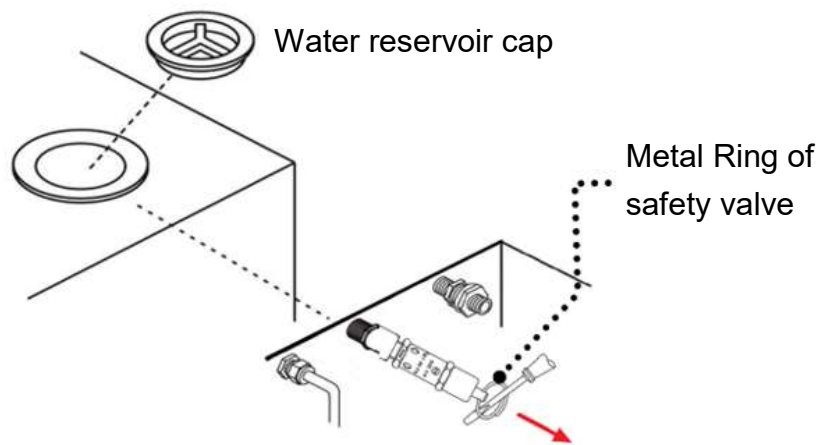

Figure 32
If the pressure gauge reading is not zero (0), open the “ Water reservoir cap ” and pull the ring of safety valve by using a screwdriver as shown in Figure 32 to release the steam until the pressure gauge reading reaches zero (0).